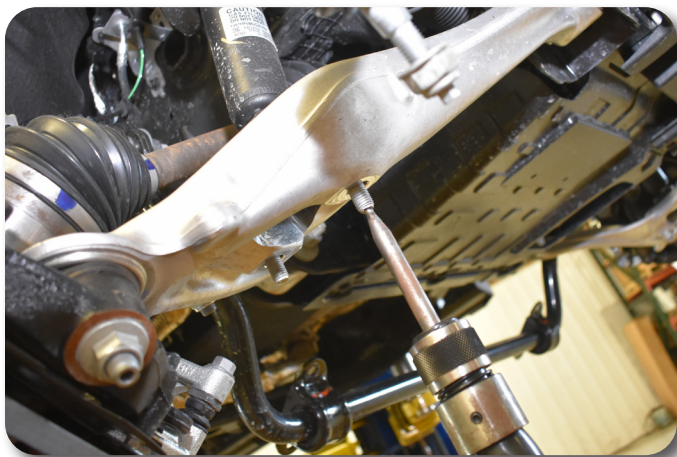

Figure 8A
11. Support the lower control arm with an appropriate jack. Remove the lower strut mount nuts at the lower control arm. Use the air hammer to dislodge the strut studs in the lower strut mounts **Figure 8A & B**. Discard the lower strut studs and nuts.